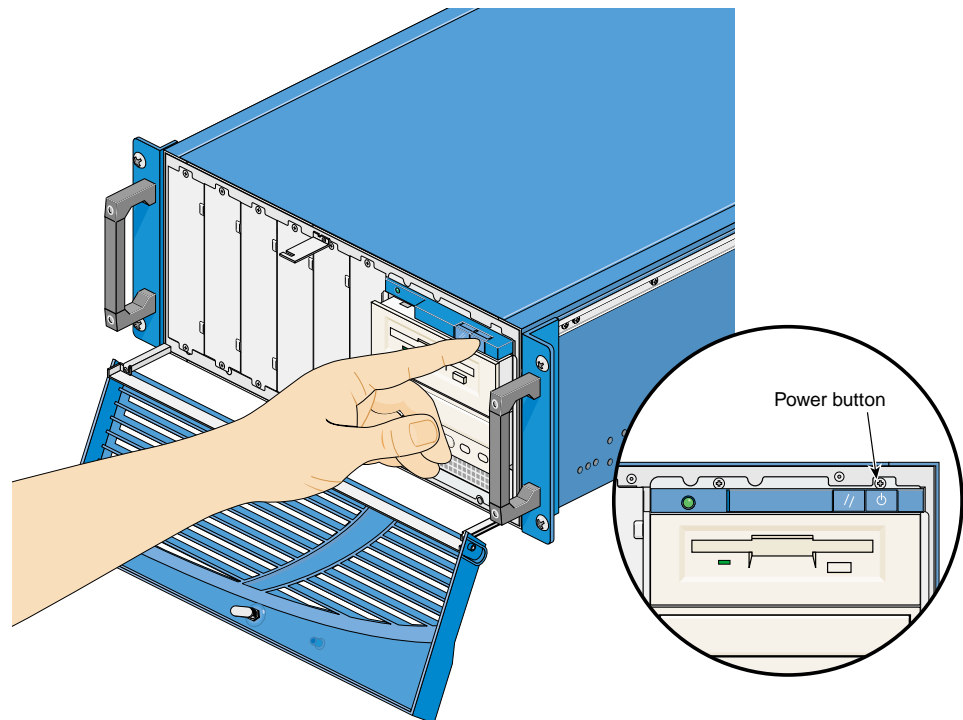

Figure 4-2 Powering Off the Node
3. Power off the node with the button at the far right above the floppy disk drive; see Figure 4-2.